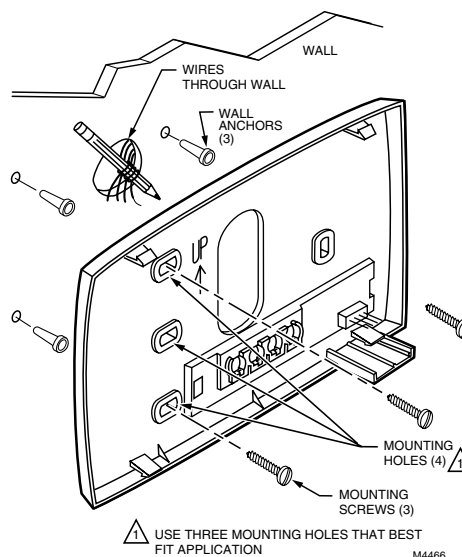

Fig. 22. Mounting PC8900A Wiring Plate.
2. Run cable from the unit to a hole at the selected wall location. Pull approximately three inches of wire through the hole. Color-coded 18-gauge thermostat wire is recommended. See Fig. 22.